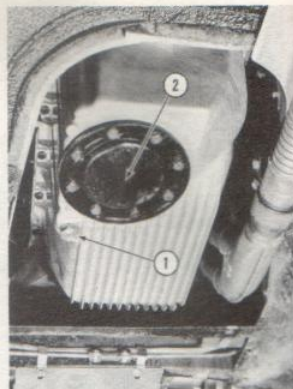

fig. 29
- Drain Engine Oil 1 fig. 29	—